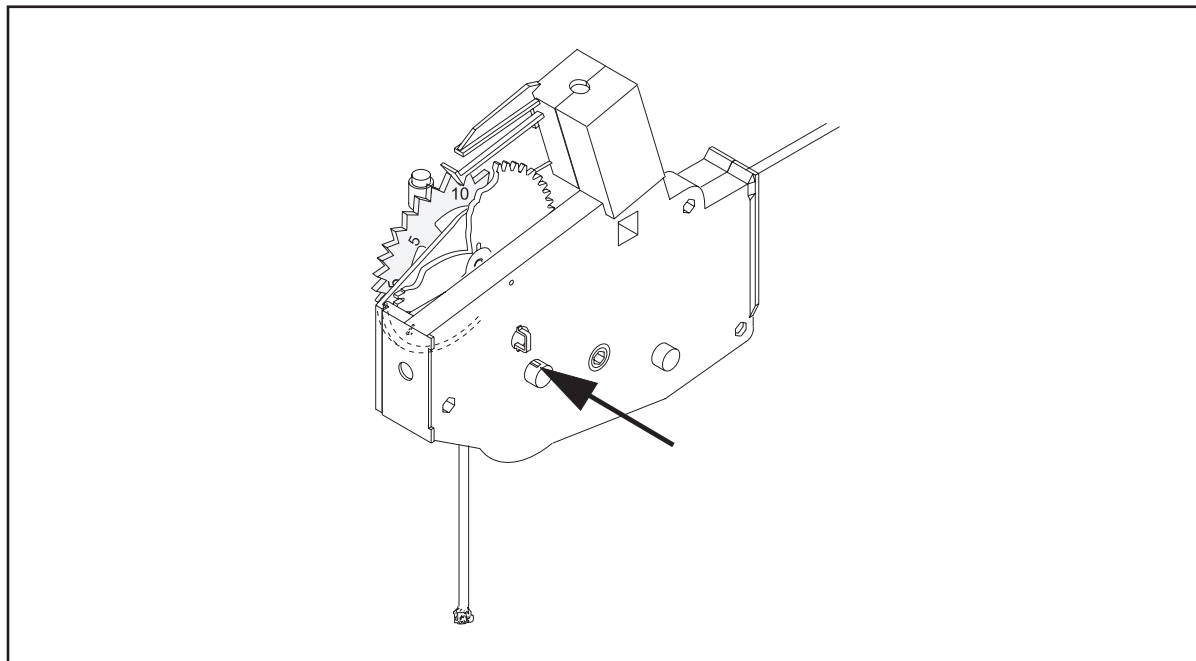

Figure 5-11. Oil String Control Unit
(1) OIL
(2) GREASE
- Apply a drop of oil on each side of the string control units. Refer to *Figure 5-11*.